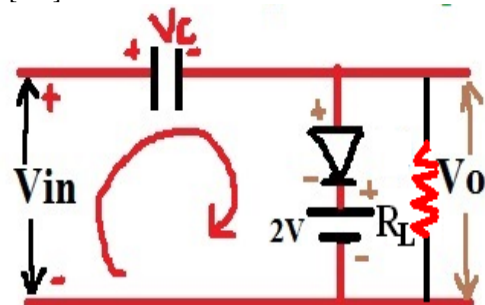

Fig.2: Unbiased clamper circuit
2. Biased Clamper: in this type of clamper, the output waveform is shifted completely downwards or upwards depending upon the diode direction and the polarity of battery. In biased clamper, the external source of DC (battery is compulsory). In figure 2, the biased clamper circuit has been visualized, which consists of one external battery in series with the diode, a capacitor in series with the input, an ideal diode shunt with the output and a load resistor [6-8].